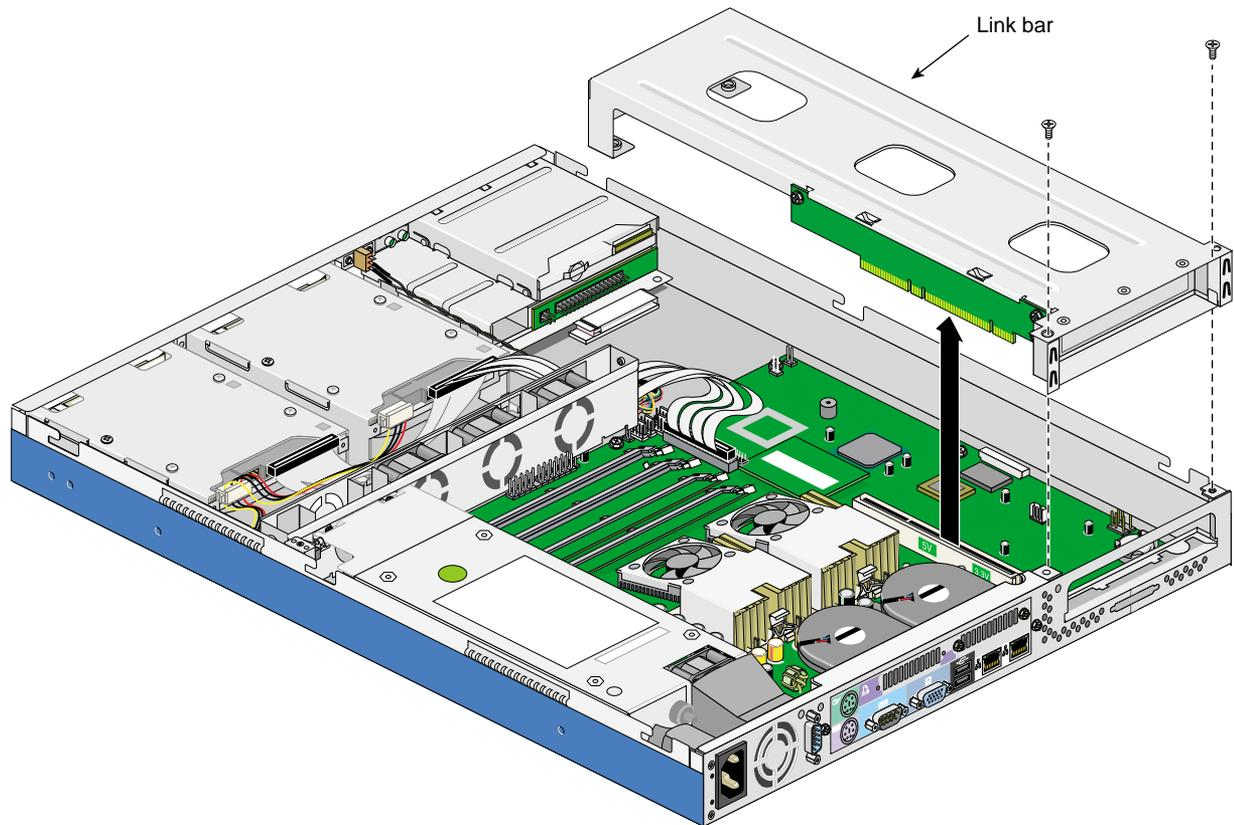

Figure 2-4 Removing the Link Bar
2. Remove two screws from the rear panel and pull the link bar away from the chassis as shown in Figure 2-4.